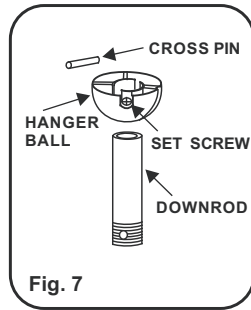

Fig. 7
Step 3. Remove hanger ball from downrod assembly by loosening set screw, removing the cross pin, and sliding ball off rod.(Fig 7)